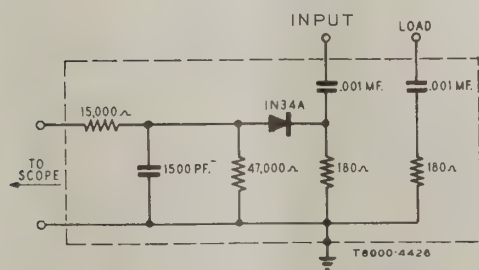

Figure 14 - I-F Detector Test Block
- OSCILLOSCOPE.** Connect to pin 5 of V304 using IF Test Block shown in Fig. 14. Load the plate of the 2nd picture IF, pin 5 of V305, by connecting to "LOAD" of IF Test Block.